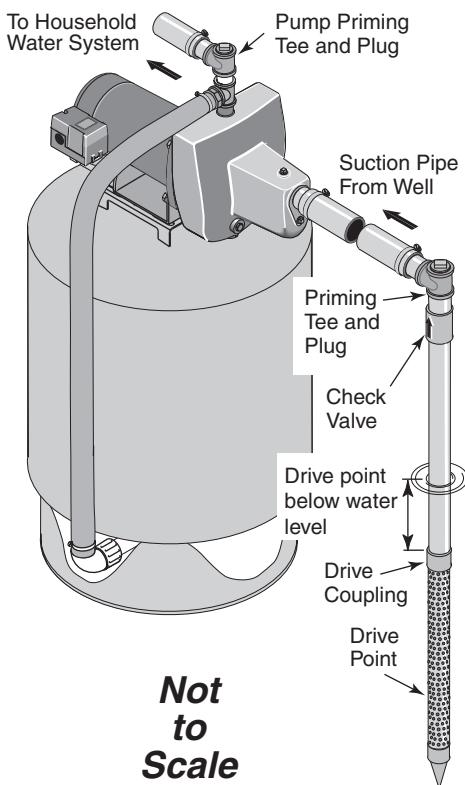

Figure 1: Driven Point Installation
WELL POINT (DRIVEN POINT) INSTALLATION (Figure 1)
- Step 3. Use the fewest possible fittings (especially elbows) when connecting the pipe from the well point to the pump suction port. The suction pipe should be at least as large as the suction port on the pump (include a check valve if your pump is not equipped with one – see Figure 1). Support the pipe so that there are no dips or sags in the pipe, so it doesn’t strain the pump body, and so that it slopes slightly upward from the well to the pump (high spots can cause air pockets which can air lock the pump). Seal the suction pipe joints with PTFE pipe thread sealant tape. Joints must be air- and water-tight. *If the suction pipe can suck air, the pump cannot pull water from the well.* If one well point does not supply enough water, consider connecting two or three well points to one suction pipe.